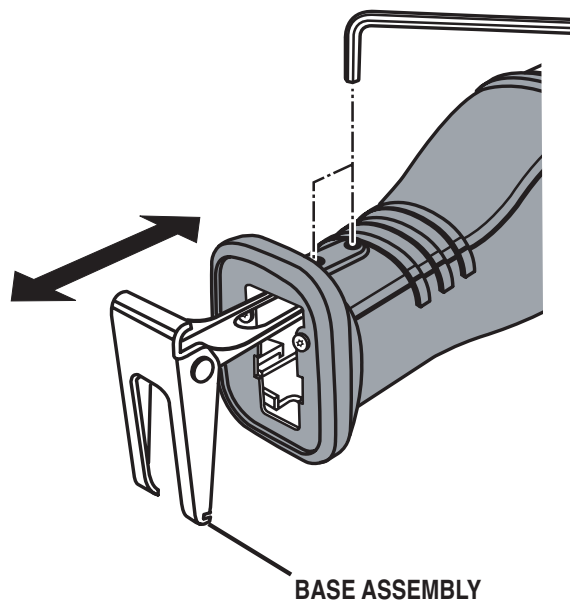

Fig. 4
See Figure 4.
- Loosen the screws in the gear frame with the hex key. See Figure 4.